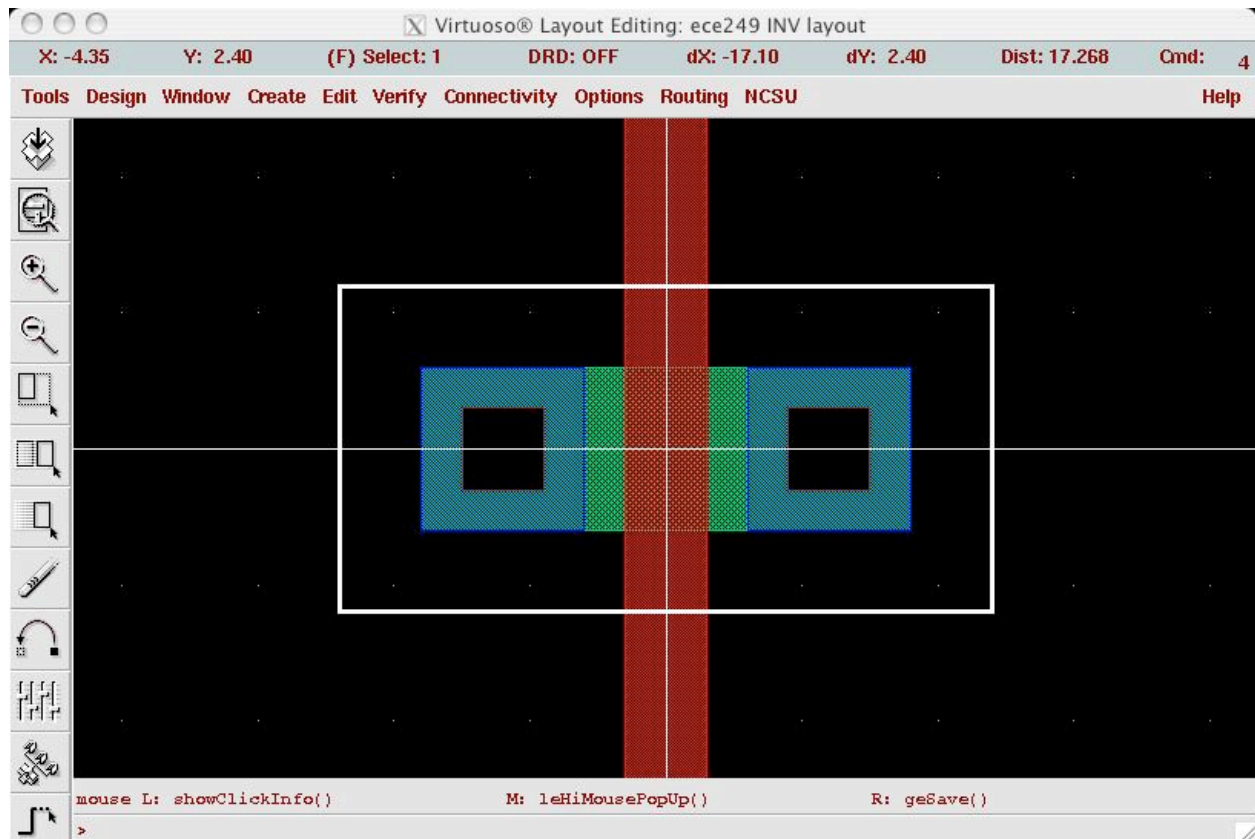

Fig. 6. NMOS layout.
Step 8: Covering Contacts with Metal-1 and drawing an “Nselect” layer. Select “metal1” layer from *LSW* window, and go to *Create* → *Rectangle* in the *Virtuoso Editing* window, drawing two metal-1 covering boxes. Then select “nselect” layer from *LSW* window, and go to *Create* → *Rectangle* in the *Virtuoso Editing* window, drawing a rectangle extending over the active region by 0.6 μm in all directions, as shown in Fig. 6.